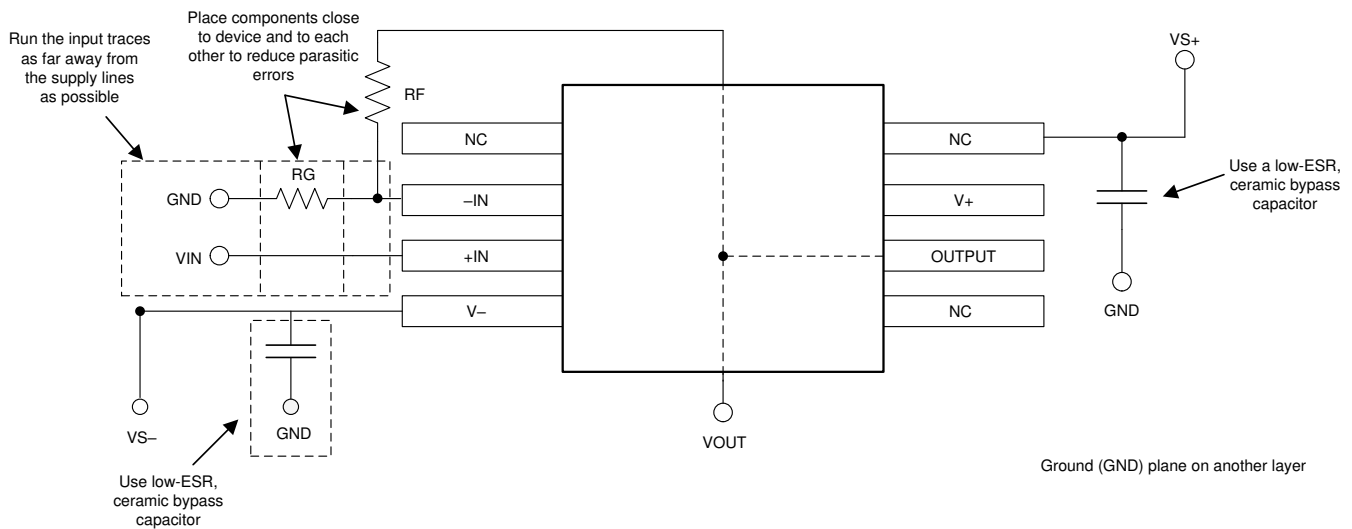

図 7-5. Operational Amplifier Board Layout for Noninverting Configuration
- Place the external components as close to the device as possible. As shown in 図 7-5, keeping RF and RG close to the inverting input minimizes parasitic capacitance.